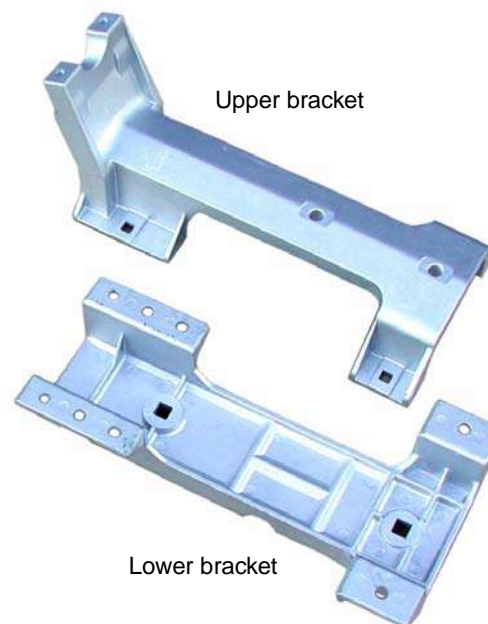
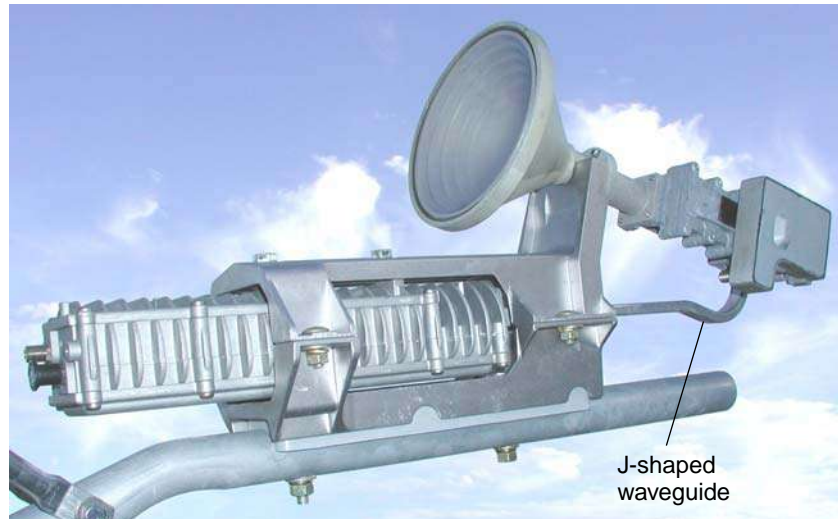

Figure 9: Radio assembly mounting brackets and adapter
Figure 10: J-type radio assembly
**Radio mounting brackets (for J-type radio only)** The antenna kit for the J-type radio assembly (only) includes two mounting brackets (Figure 9) that are used to secure the radio assembly to the feed support arm, as illustrated in Figure 10 on page 15.
***J-type radio assembly*** Figure 10 shows the *J-type* radio assembly, referred to as *J-type* because its waveguide is shaped something like the letter J.